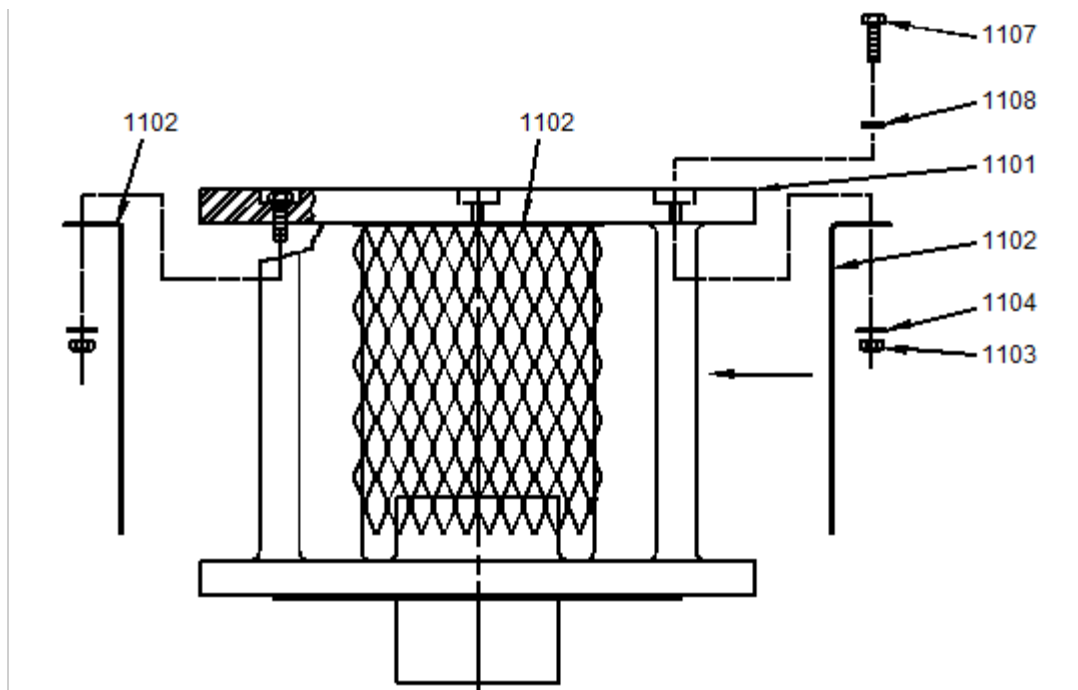

Figure 9: Handhole Cover Installation
4. Install handhole cover bolts [1107] and lockwashers [1108] into the counterbored and tapped holes in the top of the pedestal. Tighten bolts onto lockwashers. Reference Figure 9, page 19. Handhole covers [1102] and remaining fasteners will be assembled in Step 13.